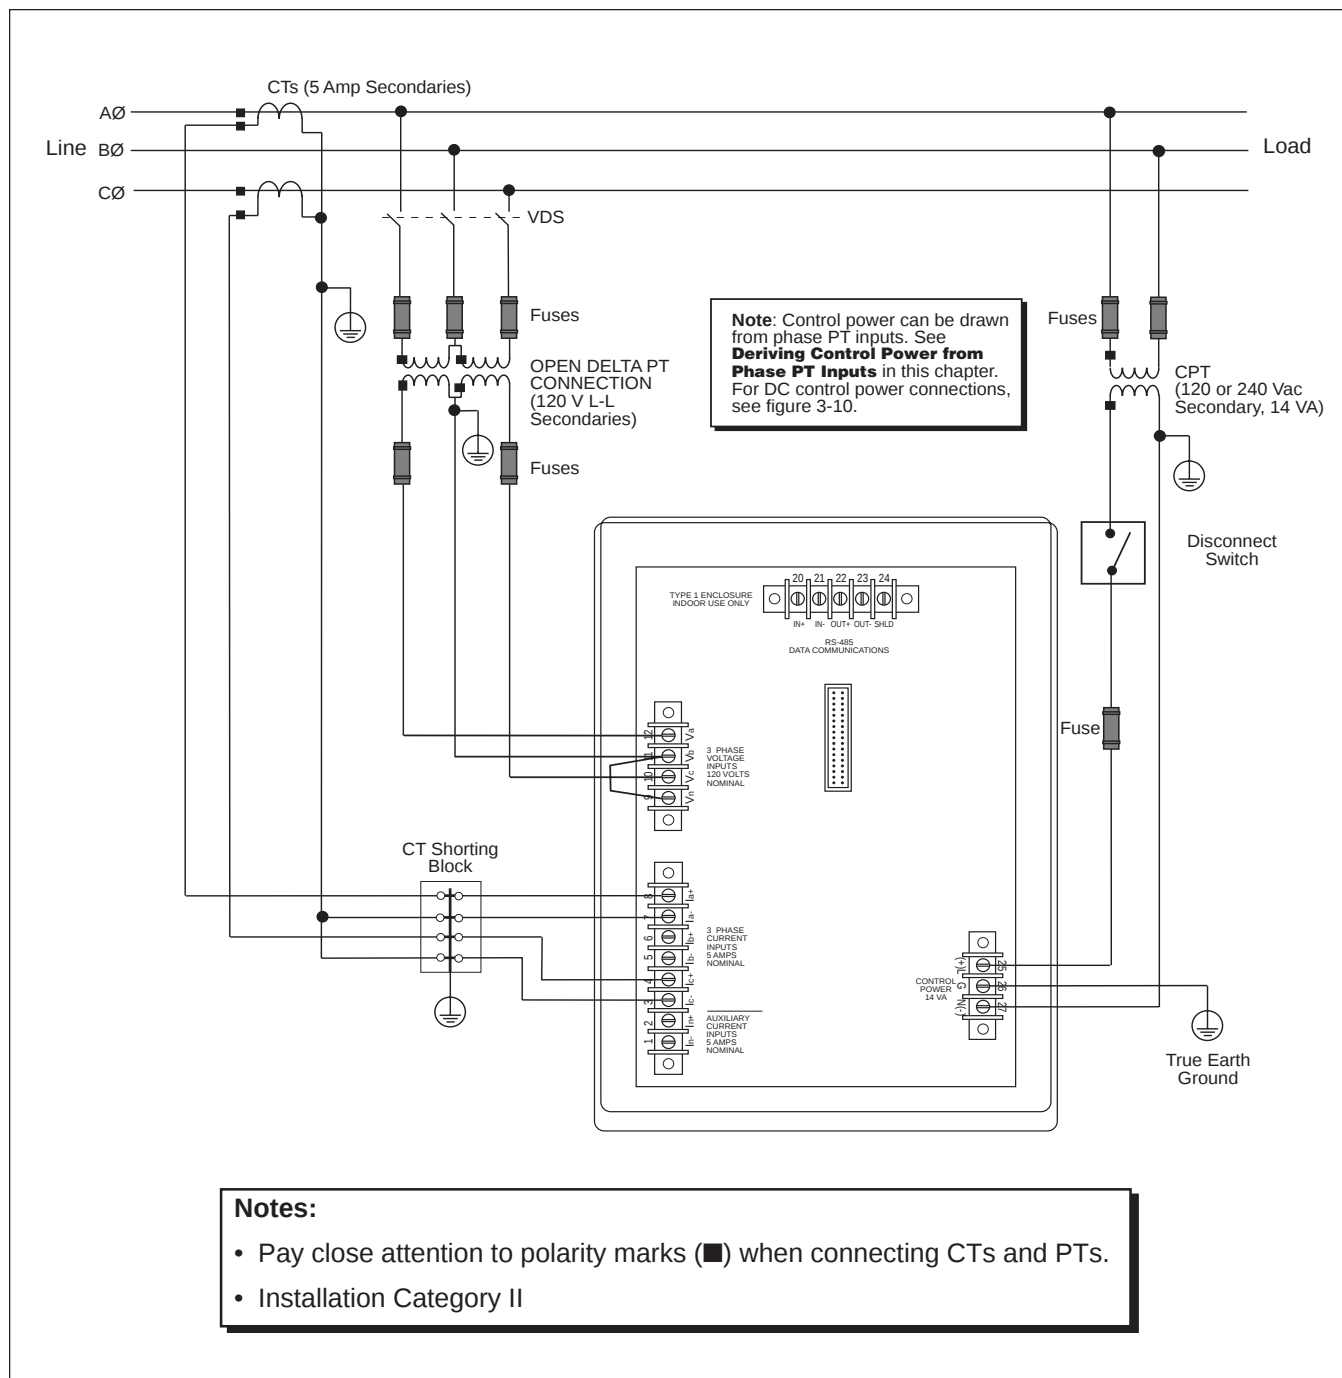

Figure 3-4: 3-phase, 3-wire delta connection
The circuit monitor supports a variety of 3-phase power system wiring connections, including 3-wire delta, and 4-wire wye. Table 3-2 lists the supported system connections. Figures 3-4 through 3-9 show CT, PT, and control power wiring. Figure 3-10 on page 24 shows dc control power.
2. Connect the spade connectors to the circuit monitor terminals as shown in the appropriate wiring diagram. (Figures 3-4 through 3-10 show wiring connections.) Do not overtighten screws, but ensure that they are snug.